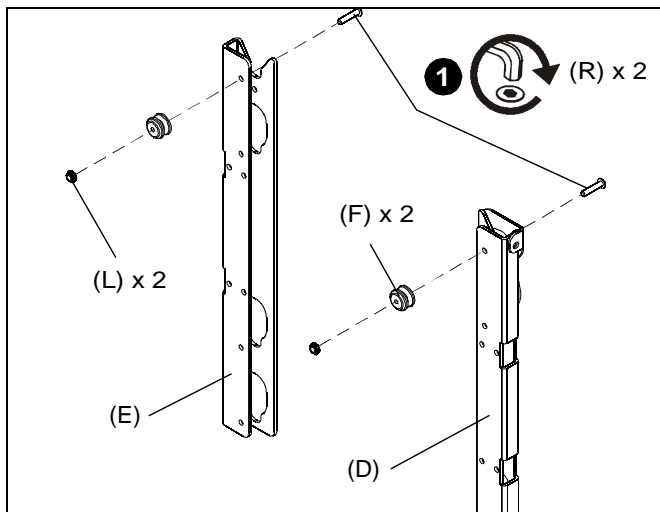

Figure 1
1. Install top two mounting buttons (F) to uprights (D and E) using two 10-24 x 7/8" button head cap screws (R) and two 10-24 lock nuts (L). (See Figure 1)